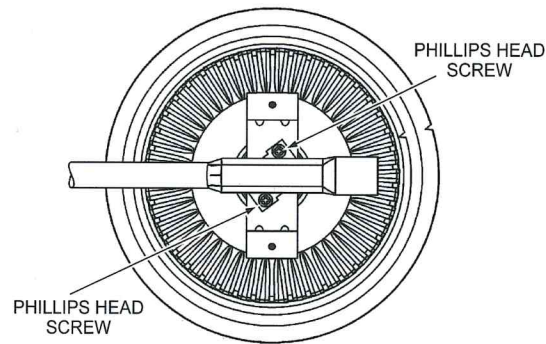

FIGURE 14.
- Re-install the burner tube to the burner and secure it with the two (2) Phillips Head screws previously removed, see Figure 14.